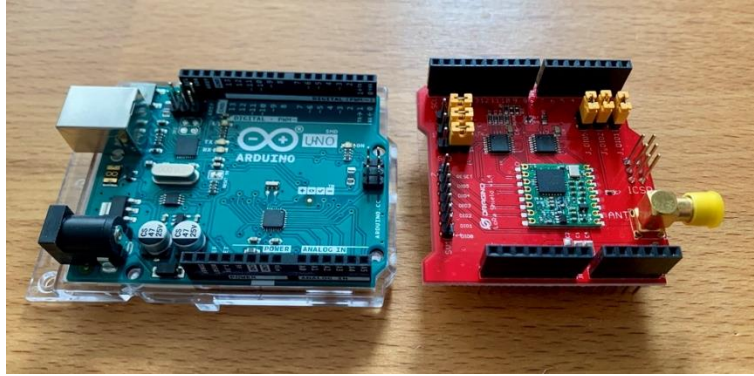

Figure 4: Arduino and shield side-by-side, ready to mount
1. Place the shield next to the Arduino so that the both the shield and the Arduino have the same number of pins at the top as each other, and the same number of pins at the bottom (as seen in Figure 4).